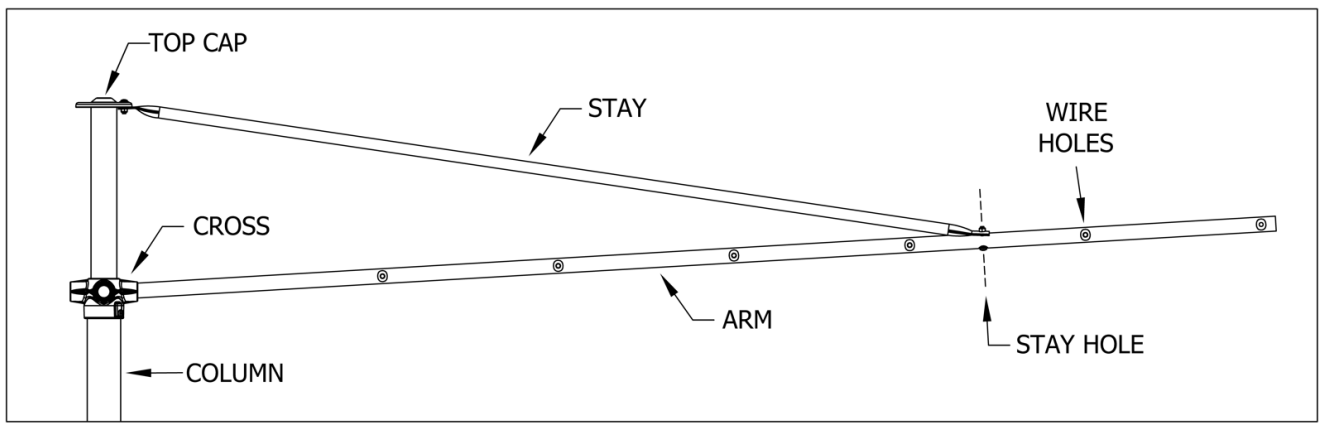

Fig 6. Arm / Stay assembly fitted to Column.
- The stay hole in the arm is an individual through hole set at 90° to all the other wire holes (Fig 6).